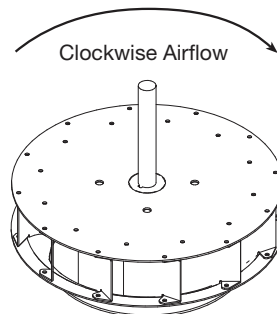

Fig. 8
3. Check wheel rotation (viewing from the shaft side) by momentarily energizing the unit. Rotation should correspond to the rotation decal on the unit, see figure 8. If wheel rotation is incorrect, reverse two of the wiring leads or check motor wiring for single phase.
- Start the fan and shut it off immediately to check rotation of the wheel with directional arrow in the motor compartment, see figure 8.